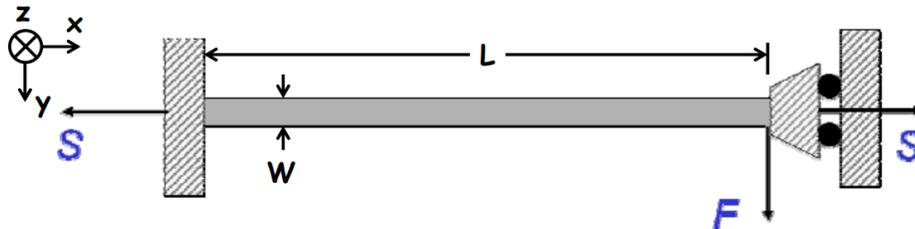

Fig. PS5.2
2. A clamped-guided beam of length L is subjected to a concentrated load F at the guided end and two equal and opposite axial forces S as shown in Fig. PS5.2.